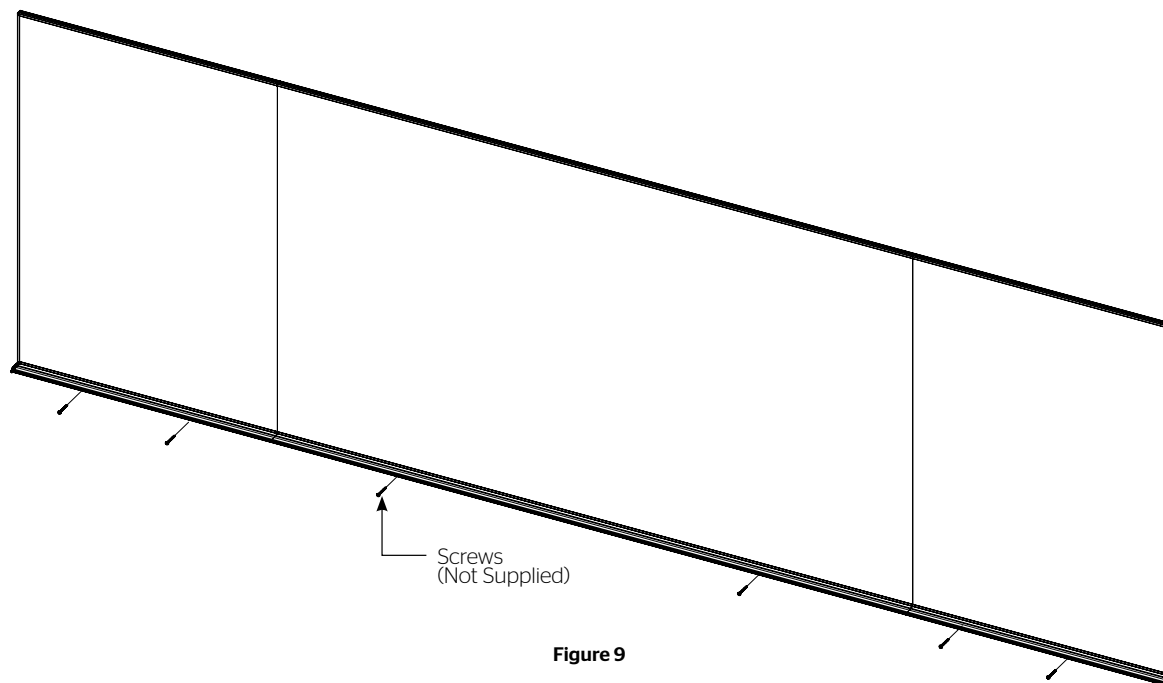

Figure 9
- To complete your installation, secure the screen to the wall through the holes in the marker trays (Figure 9).